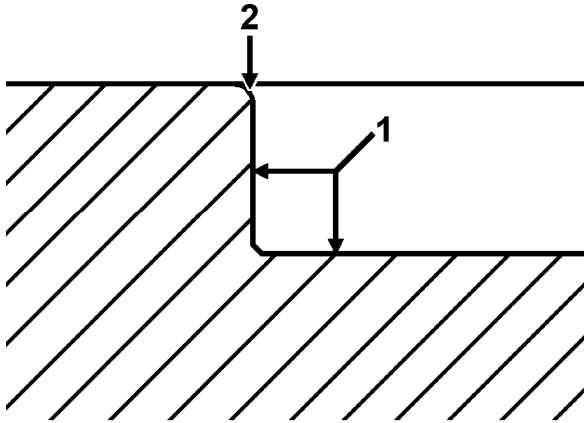

Fig. 14.64. Metal Ring Surfaces Checking
1. Brake shrinkable protector plastic, if exist. Remove any corrosion or hardened material that may exist on surface (1, Fig. 14.64) that contact rubber rings. Use a non petroleum base solvent and wipe dry with a lint free wrapper. Make sure outer edge (2) is free of burrs.